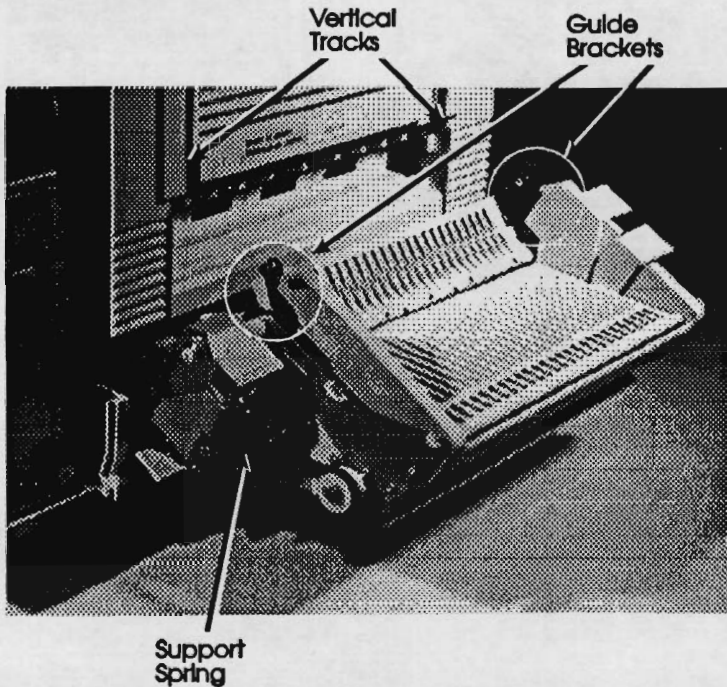

Figure 6-17. HP 33459 Switchback Assembly Removal
2. Loosen both of the switchback assembly support brackets. These have (2) screws on the left and (1) screw on the right. (See Figure 6-17).